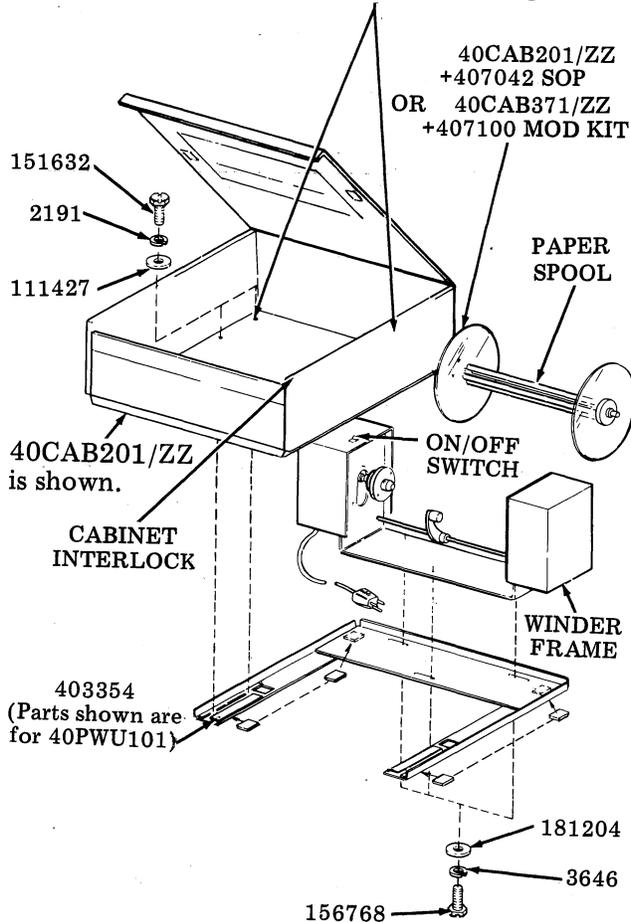

Fig. 50
- (h) Install paper winder (40PWU101 or 40PWU102), if part of station (see Fig. 50). Refer to Section 582-002-103 or 50817S, if required.